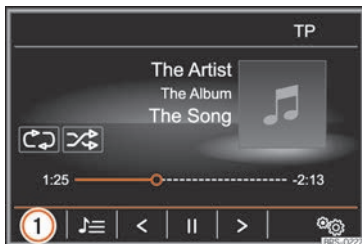

**Fig. 204** MEDIA main menu.
- From the *Media* main menu, press the **[SOURCE]** function button »» **Fig. 204** and select the desired media source.